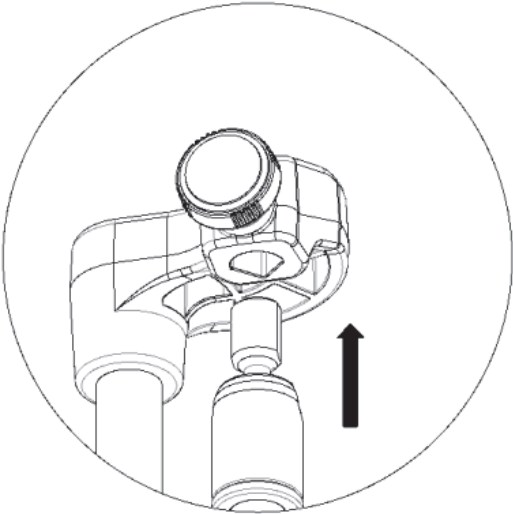

Fig. 06
4.6 Transfer Set Support: For assembling the Transfer Set in its Support, fit the terminal until the end of the groove and fix the terminal with the knob. The transfer set terminal has a prism fitting system that ensures repeatability in its positioning, since the quick lock lever is not released during the registration, and since it was docked up to the end of the groove (**Fig. 06**).